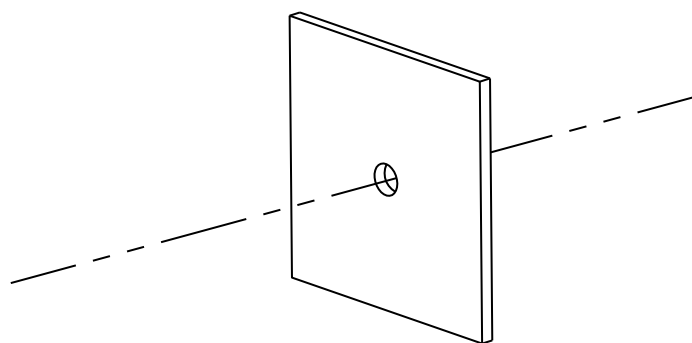

Figure 6-11 Drill on the Surface
1. Drill on the mounting surface. As shown in Figure 6-11.